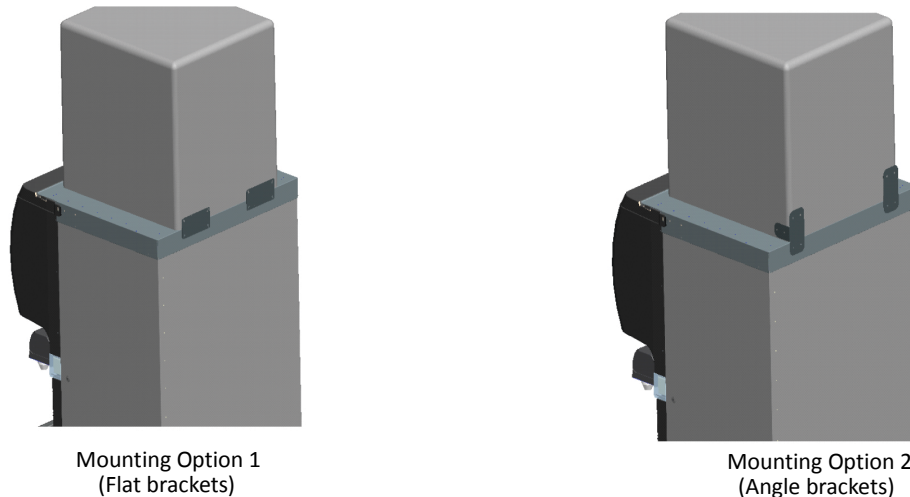

Figure 3.
Two options are supplied with this kit for securing the icemaker to the kit. (See Figure 3.)
8. The next step is to secure the icemaker to the kit. Depending on the mounting method chosen, use the appropriate brackets (supplied) as templates to drill four 9/64" (.140" Dia.) holes into the back side of the adaptor kit. Drill four holes of the same diameter into the icemaker (Figure 3.) Ensure the location of the brackets will not damage the kit or the icemaker prior to drilling any holes. **USE EXTREME CAUTION NOT TO DRILL INTO ANY OTHER COMPONENTS.** Drill depths should not go further than the thickness of the material being drilled (just enough to go through). Secure the two brackets using the screws provided.